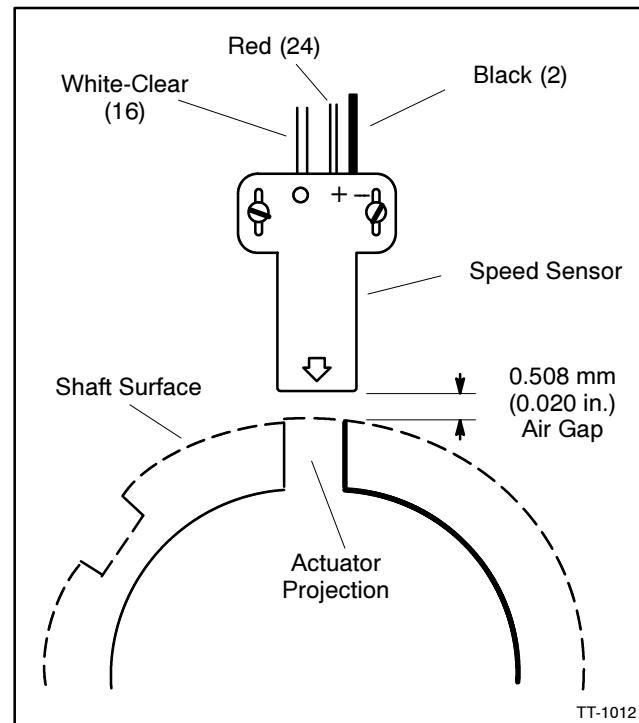

Figure 14 Speed Sensor Air Gap
21. Reconnect speed sensor leads. Set speed sensor air gap to 0.5 mm (0.020 in.). See Figure 14.